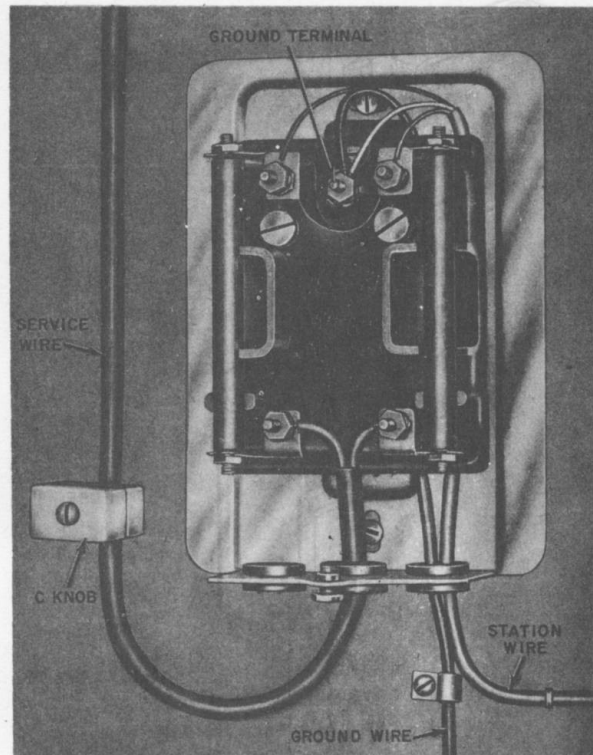

Fig. 17—1293C Protector
3.08 The 1293C protector (Fig. 17) consists of a 106C protector mounted in a 93C protector mounting. It is intended for outdoor use, and provides protection for one pair of wires.